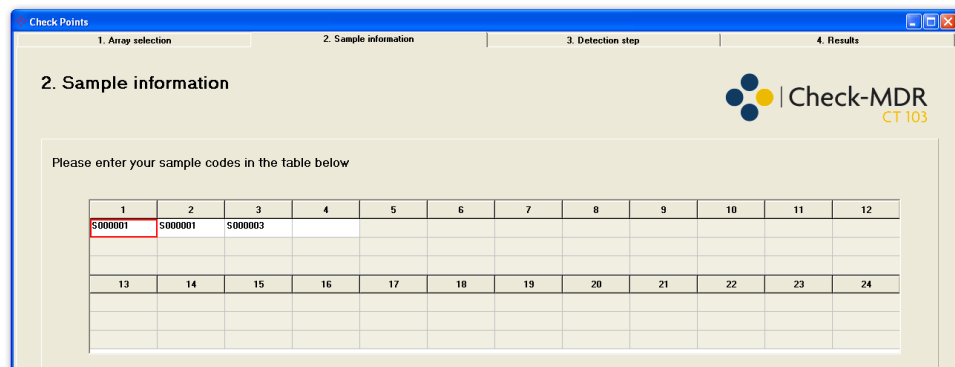

Figure 3: “Sample information”.
- e. Insert the sample codes in the screen “Sample information” (see figure 3).